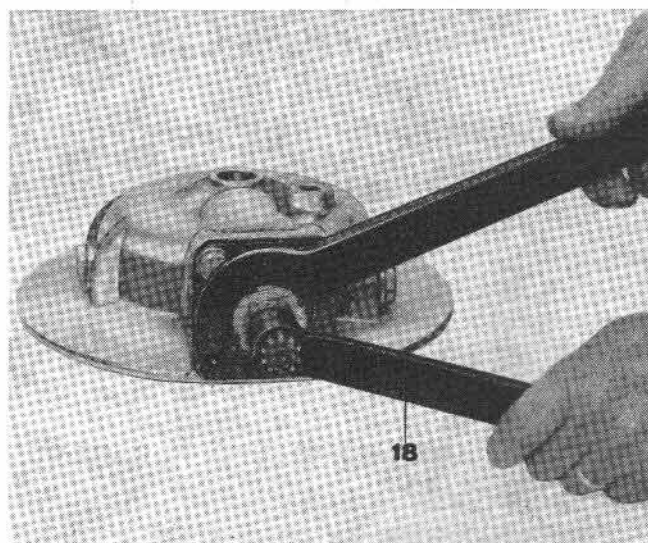

Fig. 85
- by means of tool No. 12907100 and special wrench (see 18 on Fig 85) remove locking securing bevel pinion, after having flattened safety washer.
- fit shim and adjusting washers on bevel pinion and insert pinion shank into bearing housing, securing it by lockring and lockring safety washer, using tool No. 12907100 and special wrench (see 18 on Fig. 85). Lockring must be locked by washer tongue after adjustment of bevel gear set.